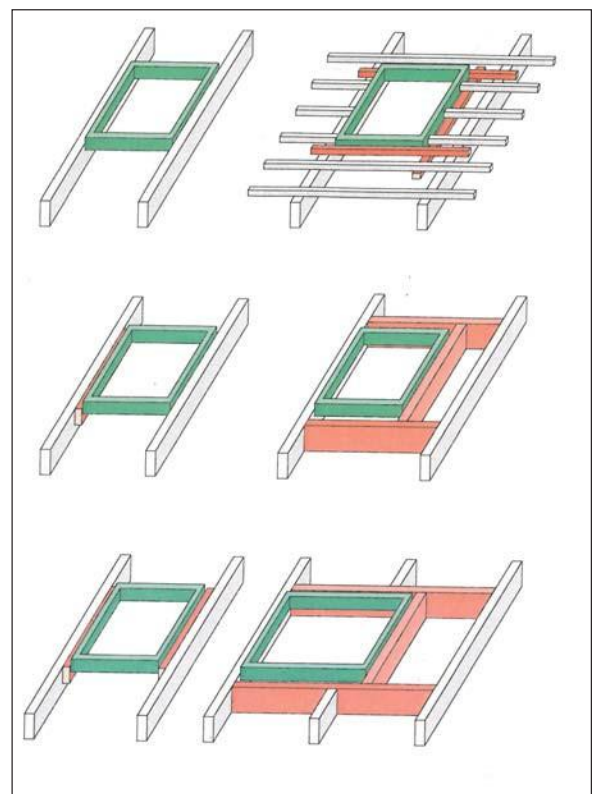

Fig 5
- 6) Cut off the battens/purlins or the roof boards in the area where the roof window is to be installed, leaving an opening with its width equal to the width of the roof window 10mm to 50mm and its length equal to the length of the roof window 10mm to 120mm (see Fig 5).